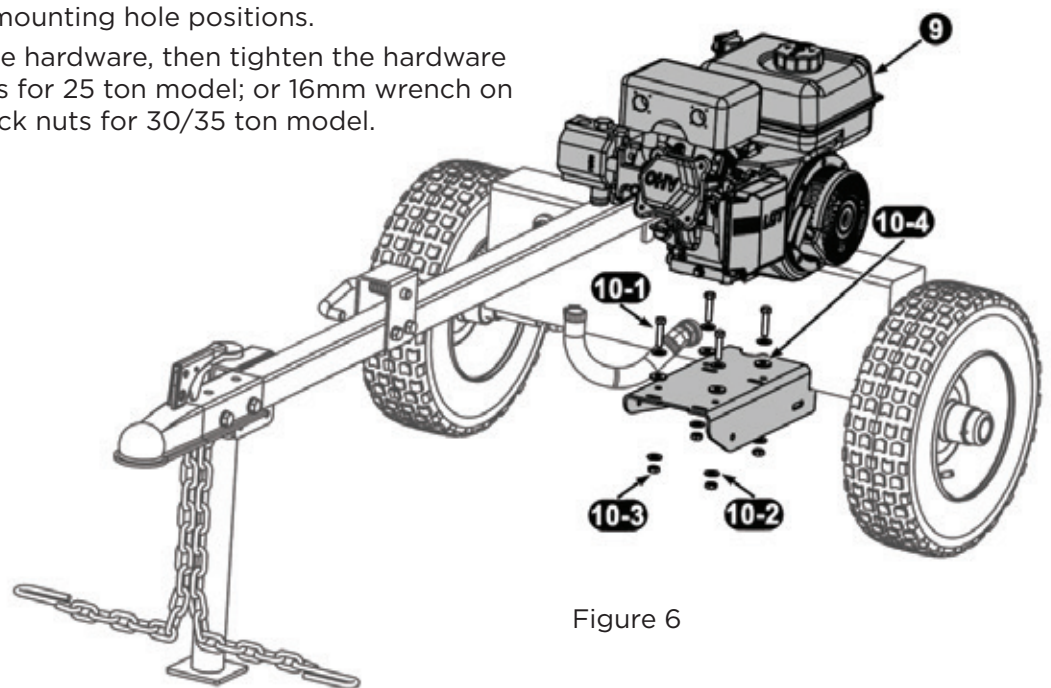

Figure 6
**Step 3:** Install the engine/pump assembly to the engine mount plate on the reservoir assembly. (See Fig. 6).